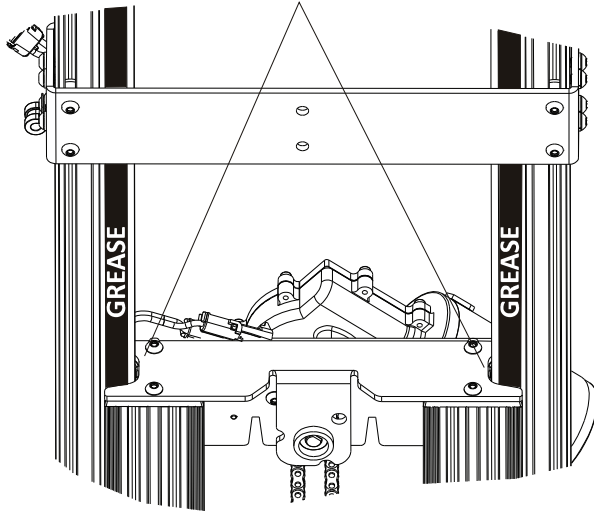

Figure 7-13
8. Apply grease to the base outer rail on both sides. Make sure that the lift is fully extended and apply grease to the underside of the outer rails ONLY. *See Figures 7-13 through 7-15.*